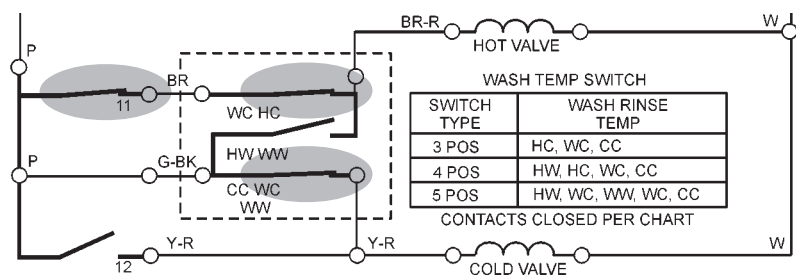

Fig. 2-2
- Control the temperature of the wash and rinse water by setting the water temperature switch. The water temperature switch is identified by the dotted box in Fig. 2-2. The wash temp switch chart indicates three possible switches, depending on the model washer being used. The switch letters in the chart, H W and C are the possible water temperature selections, Hot , Warm and Cold. The first letter is the wash temperature, the second letter is the rinse temperature.